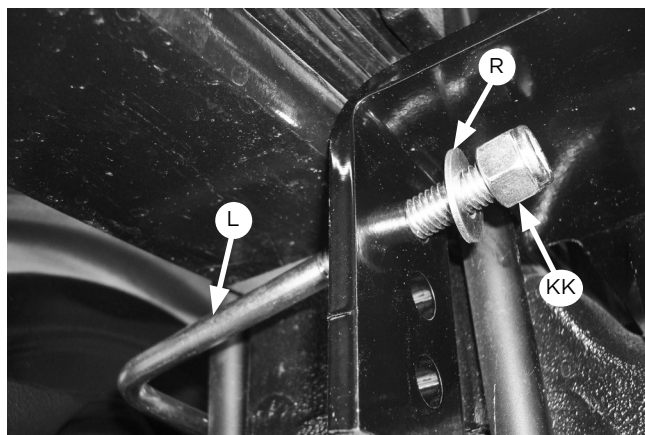

Fig. 34
3. Install the U-bolt (L) around the stock U-bolt/leaf spring assembly and insert through the topmost holes in the lower bracket main plates (Fig. 34). Cap with 3/8" flat washer (R) and 3/8" nylon lock nuts (KK). Snug bolts evenly, just enough to hold the lower bracket main plate flush against the stock U-bolts.